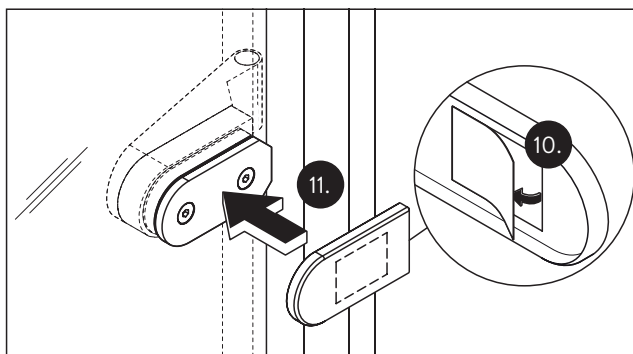

Abb. 25 Gluing the end cap in place
10. Remove the protective film from the adhesive strips on the end caps (Fig. 25).
11. Glue the end caps on the counter-plates (Fig. 25).